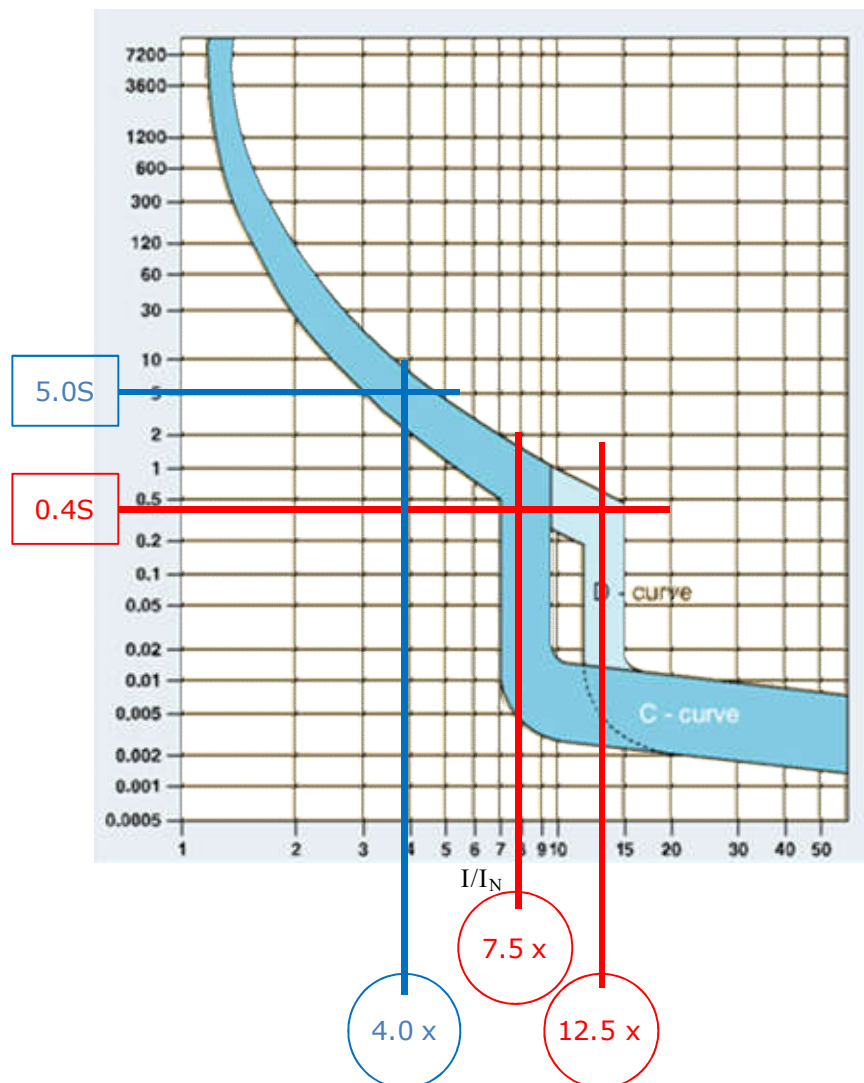

figure 2 – Clipsal 6 and 10 kA M.C.B. characteristic curve
I_a = current causing automatic operation of the protective device in amperes (A). Figure 2 shows values I_a for 0.4 and 5.0 second disconnection times.
When designing circuits for a 5 second disconnection time, the circuit protection manufacturers data must be used. Calculations and table data in AS3000 refers to a 0.4 second disconnection time. The value of $4 \times$ in figure 2 is the current required to operate the circuit breaker within 5 seconds. This is not be confused with a type 'B' circuit breaker which will operate in 0.4 seconds if 4 times it rated current passes through it.